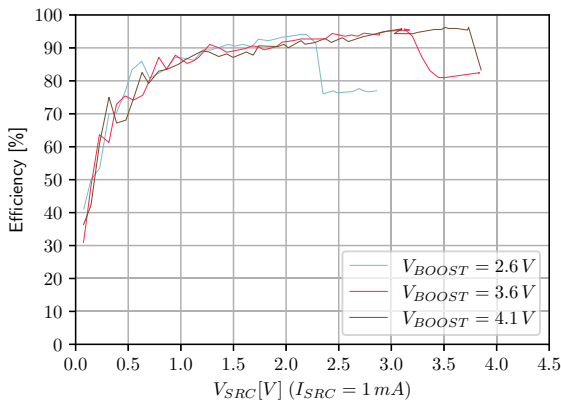

Figure 10: Boost efficiency for  $I_{SRC} = 1\text{mA}$
- **VBOOST**: Measure the current and the voltage. Repeat the measurement a copious number of times to be sure to capture the current peaks. Figure 10 has been obtained by averaging over 100 measurements configured with a 100 ms integration time.